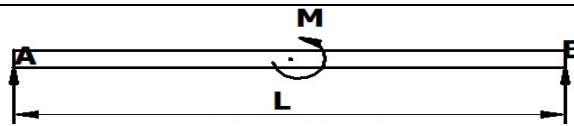

Figure 21
11. Draw the SFD & BMD for the overhanging beam shown in Figure 21. Indicate all significant values including point of contra-flexure.